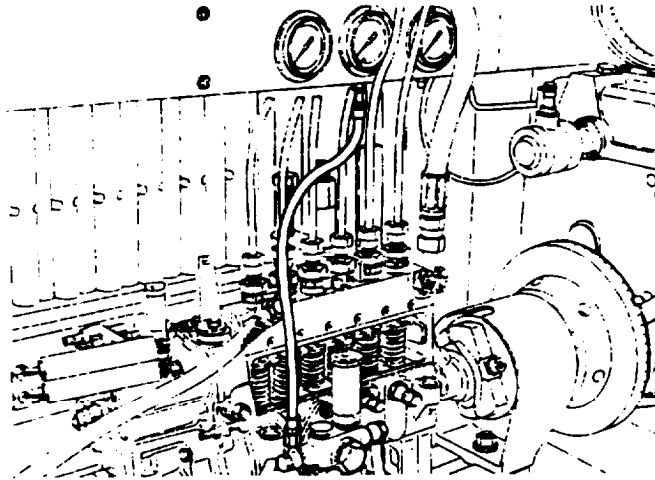

FIGURE 3-35. Feed Pump Pressure Test
- (1) Pump suction as piped in step ah, refer to FIGURE 3-35.
- (2) Pump discharge connected to test stand pressure gage
- (3) Operate injection pump at 600 rpm.
- (4) Ensure that feed pump maintains a feed pressure of 25.6 to 35.5 psi (176.5 to 244.8 kPa)